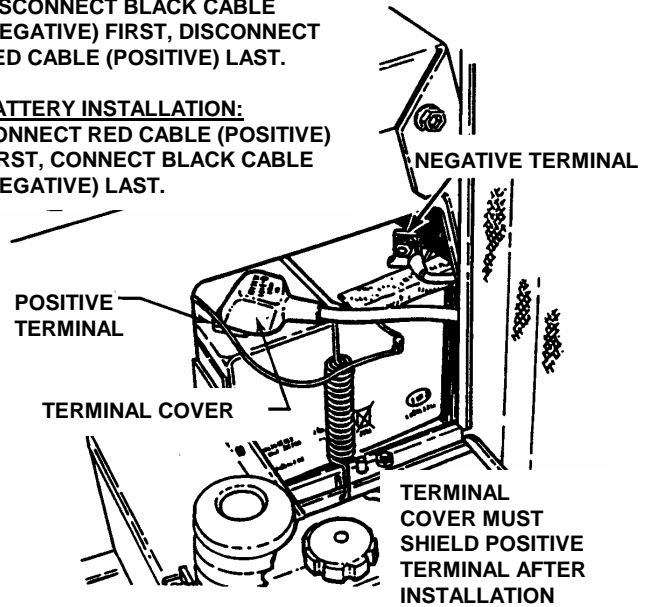

FIGURE 4.9
3. Observe and note cable positions on battery. See Figure 4.9.